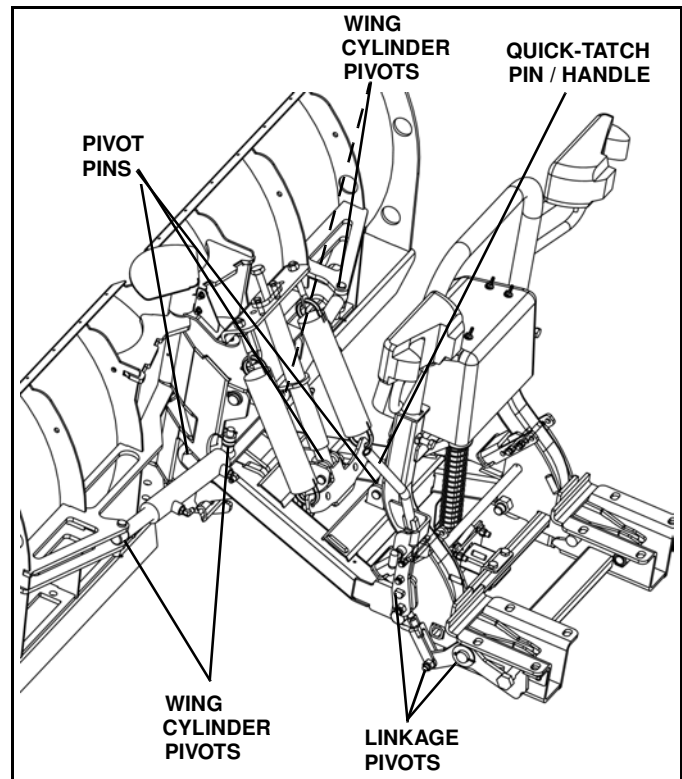

Figure 1-39
3. Apply a small amount of light oil to the hitch pins and pivots, to pivot pins between the center blade assembly and the intermediate pivot assembly, between lift and swing cylinder pivot pins and the lift linkage pivots. (See Figure 1-39).